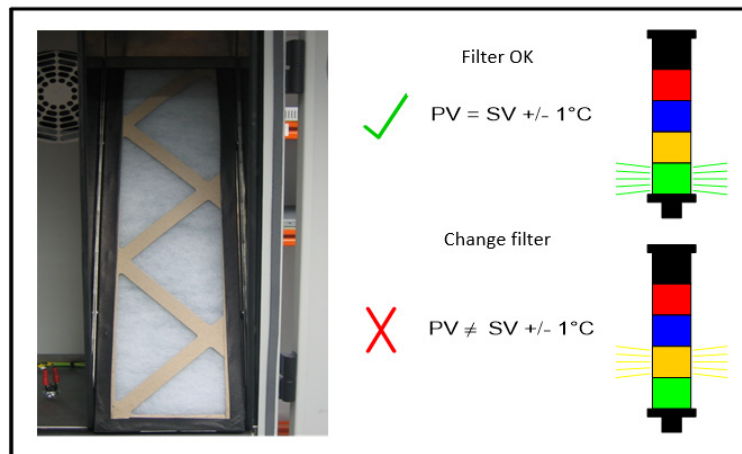

Figure 22
The life span of the TCU discharge filter will vary depending on the level of contamination of the ambient air. The filter can be deemed serviceable if the TCU can maintain the process temperature (PV) within $\pm 34^{\circ}\text{F}$ (1°C) of target temperature (SV) (Figure 22):